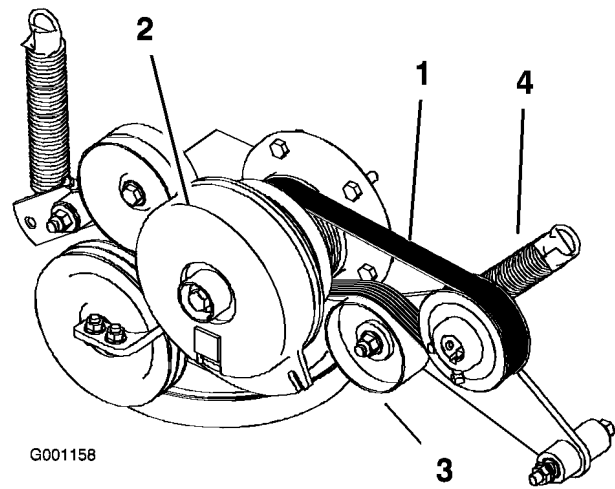

Figure 59
3. Remove the spring from the idler arm (Figure 59).
4. Install the new belt around the engine and hydro pump pulley (Figure 59).
6. Install the spring to the idler arm (Figure 59).